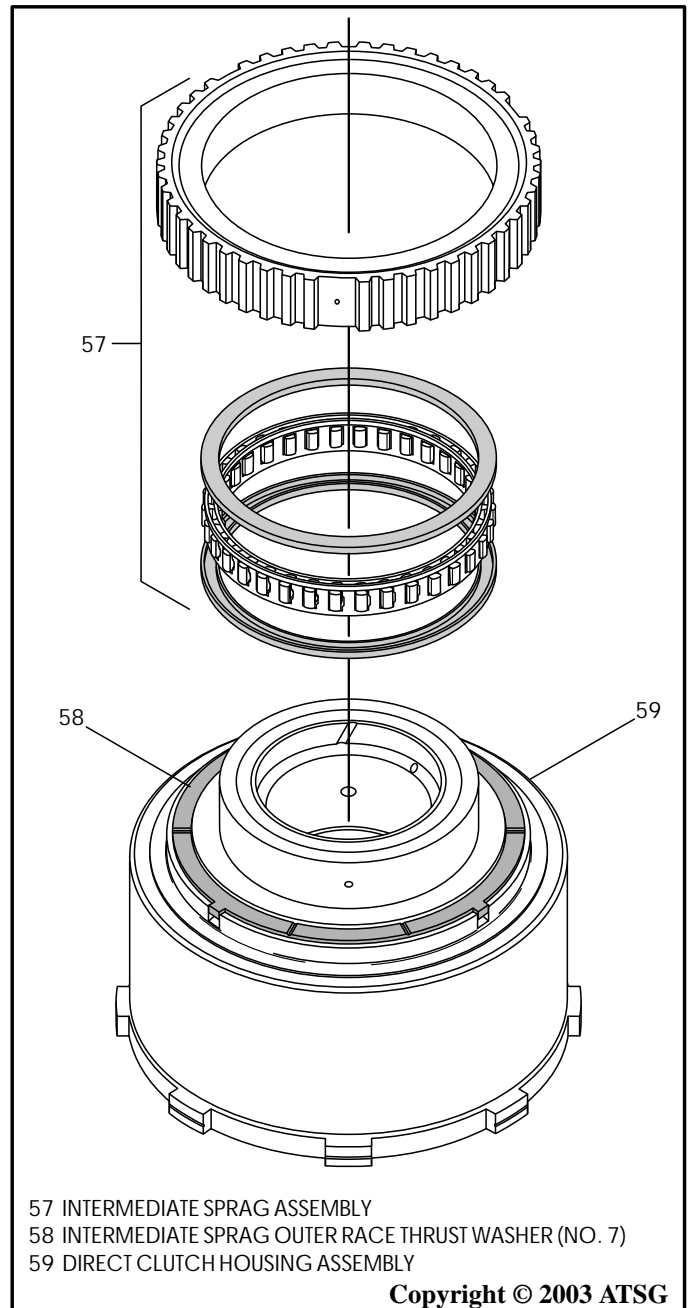

Figure 115
8. Install the intermediate sprag assembly and the outer sprag race, as shown in Figure 115.